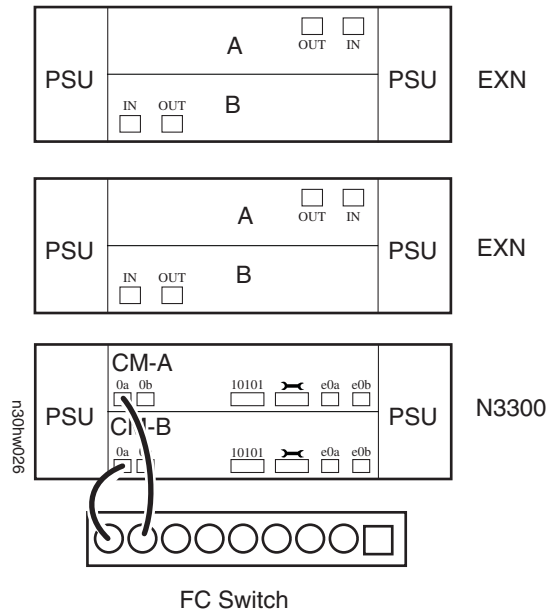

Figure 3. Cabling the N3300 to a Fibre Channel switch
1. As shown in Figure 3, cable onboard port 0a of the top controller module (CM-A) to a port on the Fibre Channel switch.
2. As shown in Figure 3, cable onboard port 0a of the bottom controller module (CM-B) to a port on the Fibre Channel switch.